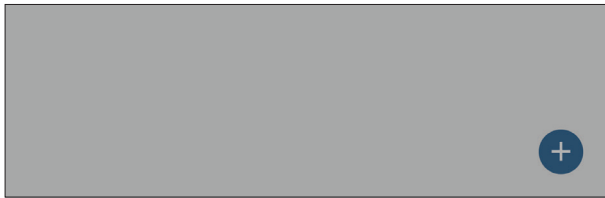

Figure 13 Plus symbol in blue circle
2. Select the plus symbol on the screen to add a NEXUS (Figure 13).